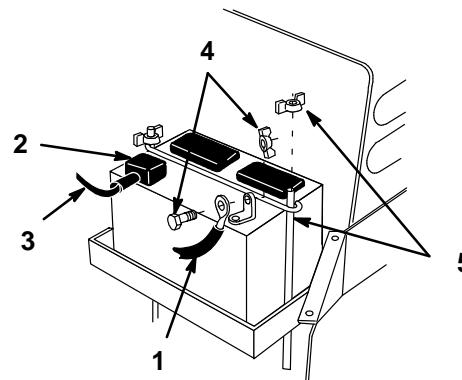

Figure 33
4. Disconnect the negative (black) ground cable from the battery post (Fig. 33).
5. Lift the rubber cover up on the positive (red) cable. Disconnect the positive (red) cable from the battery post (Fig. 33).
6. Remove the battery hold down rods (Fig. 33).
9. Using the bolt and wing nut, connect the positive (red) cable to the positive (+) battery post (Fig. 33). Slide the rubber cover over the battery post.
10. Using the bolt and wing nut, connect the negative (black) cable to the negative (-) battery post (Fig. 33).